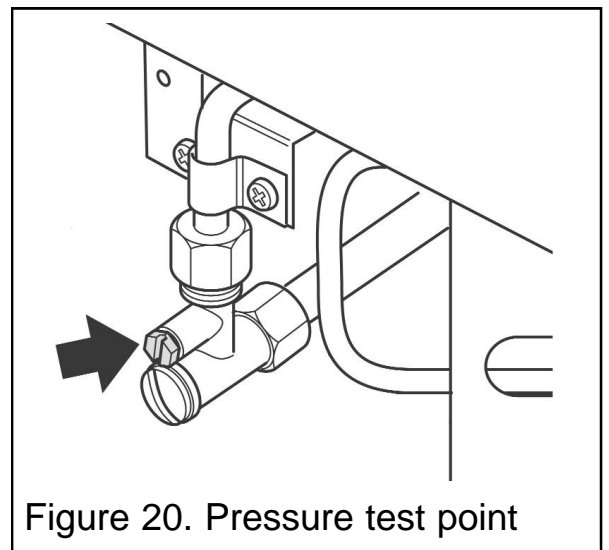

Figure 20. Pressure test point
1. Check the inlet pressure by fitting a pressure gauge at the test point. The test point is on the inlet 'T' connector (See figure 20). Check the pressure with the appliance alight and set at